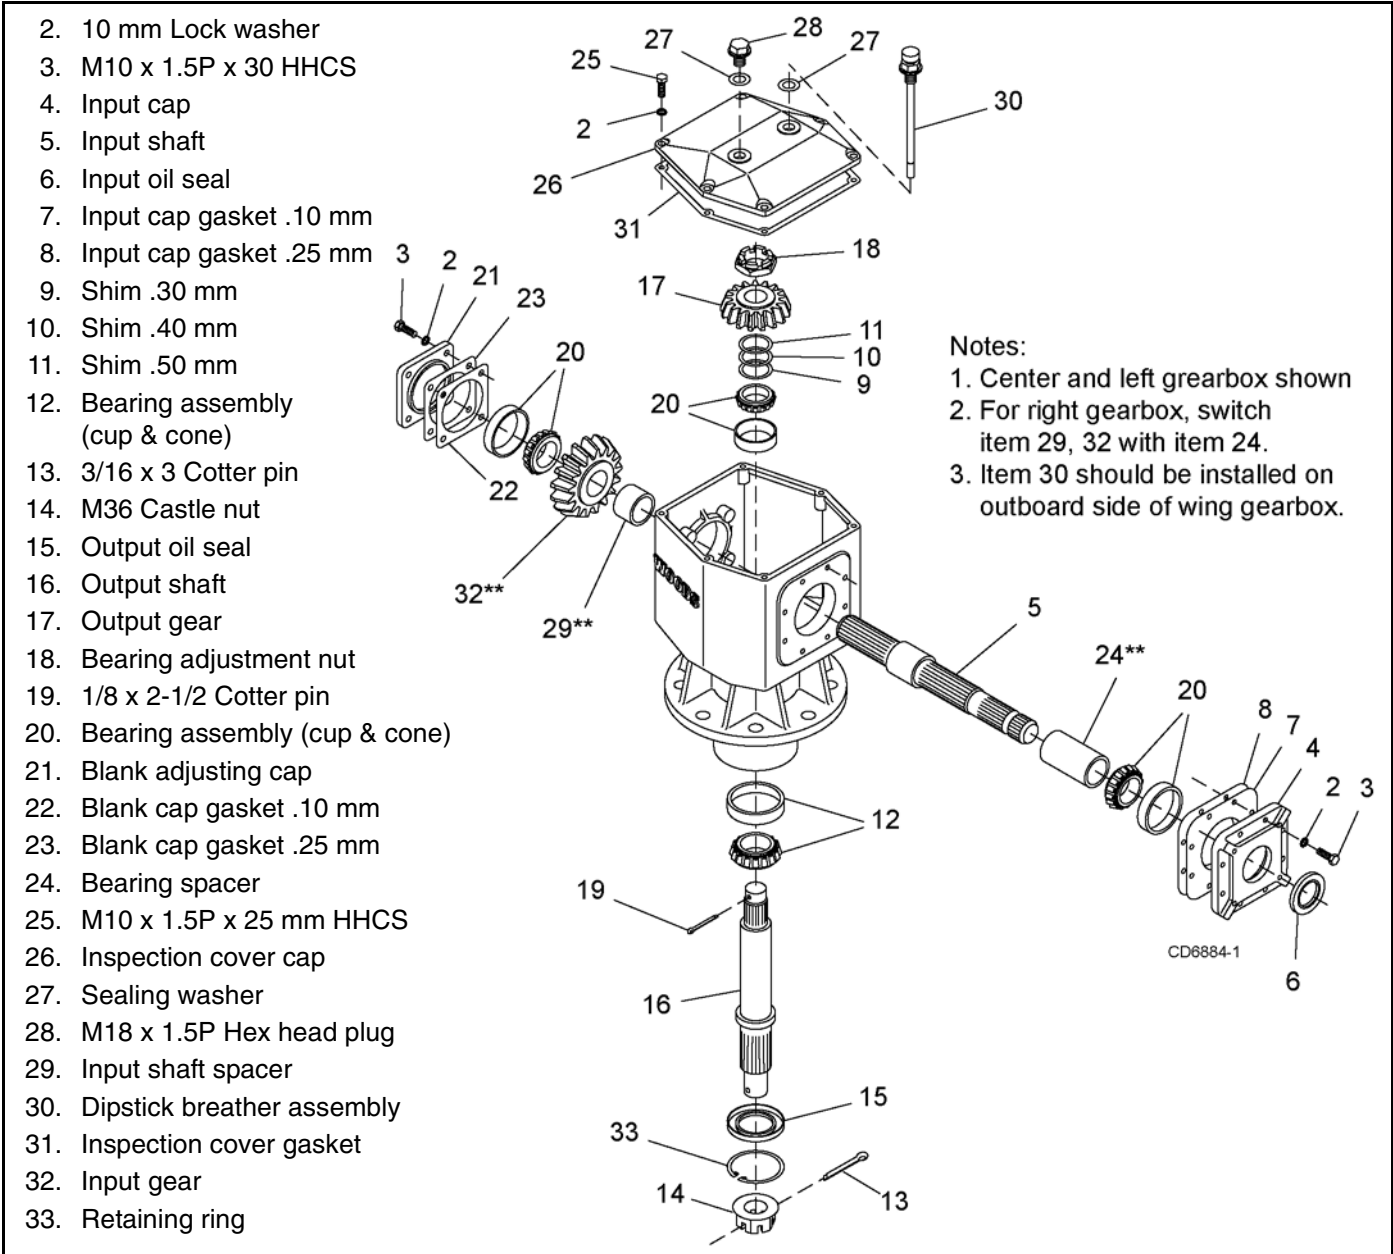

Figure 12. Style A Gearbox
Refer to Figure 12, page 28.
Refer to Figure 12.
**Refer to Figure 12.**
4. Slide output shaft (16) from the bottom through both bearings (12, 20) until it rests against bottom bearing (12).
5. Slide shims (9, 10, 11) over output shaft (16). Use the same thickness of shims that were removed as a starting point.
6. Place gear (17) onto output shaft (16) and secure with the nut (18) and cotter pin (19). The output shaft must have zero end play and rotational torque of 20 to 30 LBS-IN without the lower seal. Tighten nut (18) as needed.
7. Press bearing cup (20) into end of the housing closest to the gear, using a round tube of the correct diameter and a hand press. Install cap (4 or 21) and gaskets (7, 8 or 22, 23).
8. Place gear (32) and spacers (29, 24) through top of housing and align gear (32) and shaft (5) so that gear spline match the shaft spline.
9. While holding gear (32) in place, slide input shaft (5) through gear (32) and press onto bearing cone (20).
10. Press bearing (20) over input shaft (5).